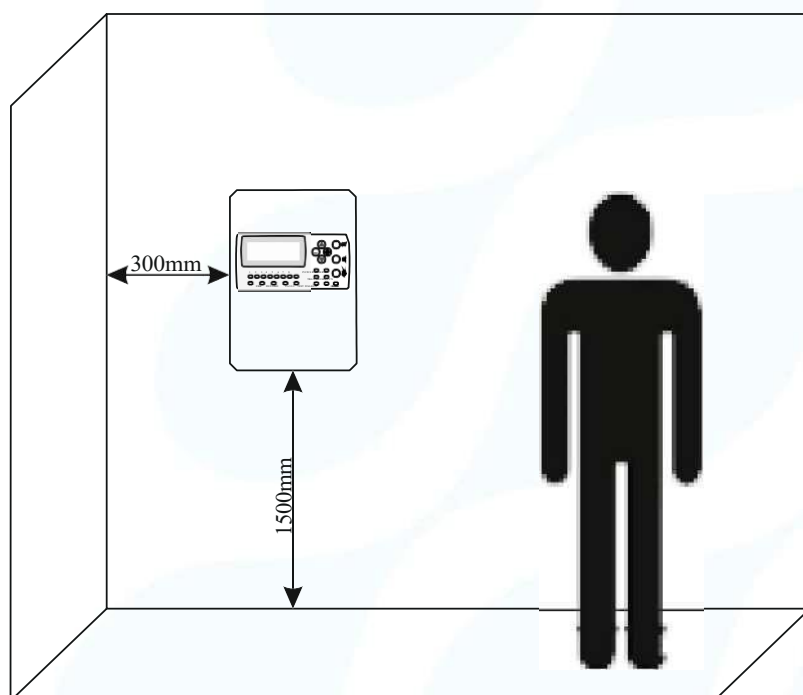

Fig. 1
- Choose the most suitable location for the fire alarm panel in the premise (Fig. 1), away from heating appliances, points of dust accumulation or access to water; ambient temperature between -5°C and $+40^{\circ}\text{C}$.